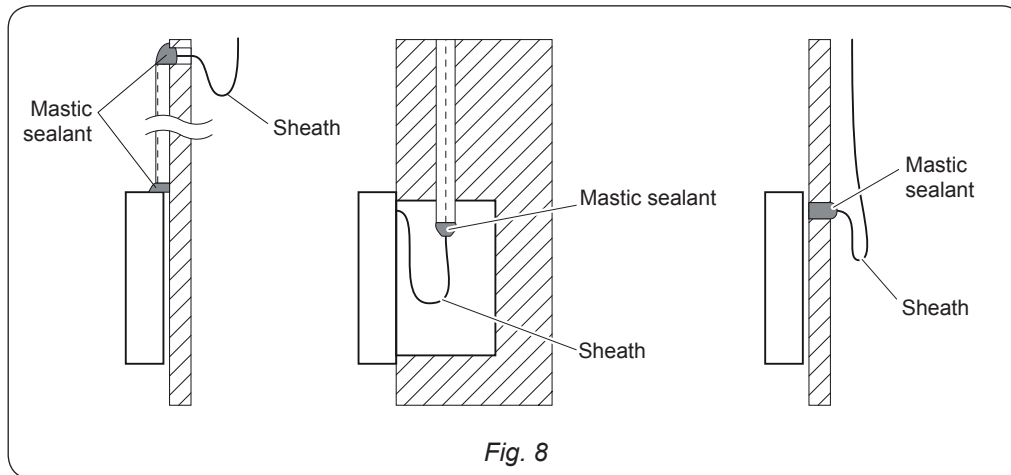

Fig. 8
- Prevent water entering the remote control, use sheaths and mastic sealant during electric connections (fig.8)